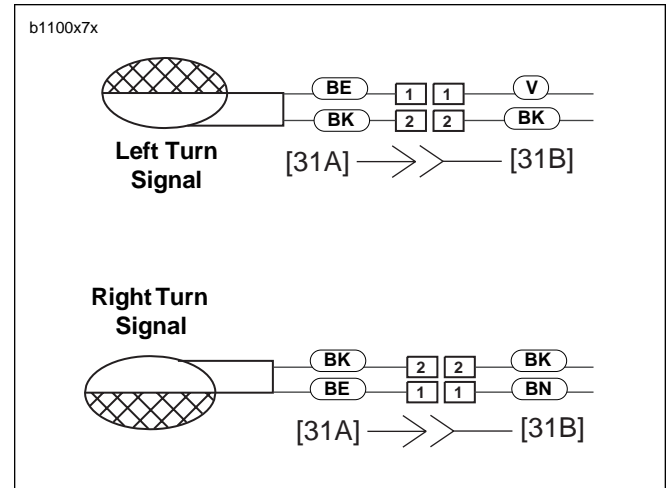

Figure 7-53. Front Turn Signal Connections
2. See Figure 7-53. Disconnect bullet connectors on turn signal wires.